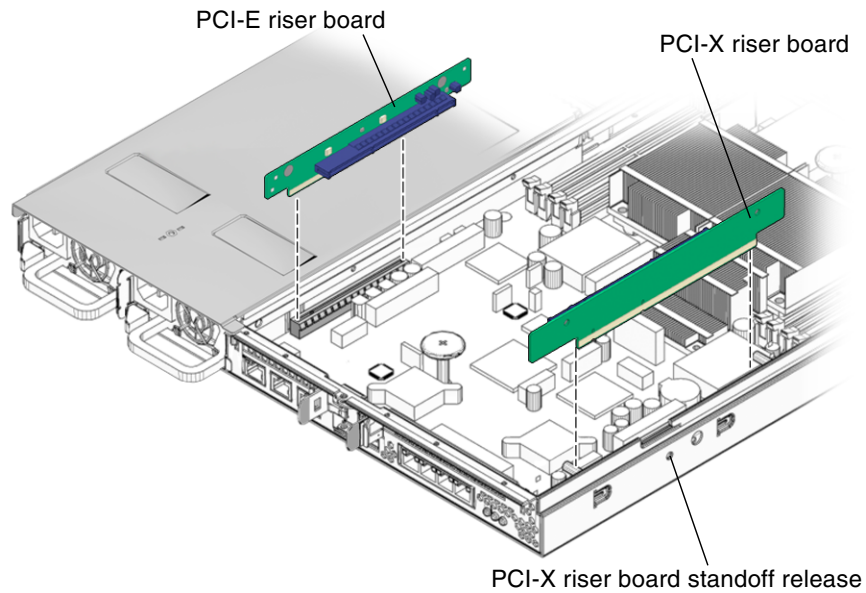

FIGURE 3-18 PCI-X and PCI-E Riser Boards – Sun Fire V215
- 8. Remove the PCI-X and PCI-E riser boards (FIGURE 3-18).**
It might be necessary to unlock the PCI-X riser board standoff from the chassis. Press the release and then remove the PCI riser board standoff (FIGURE 3-18).
13. **Reinstall the PCI-E and PCI-X riser boards (FIGURE 3-18).**